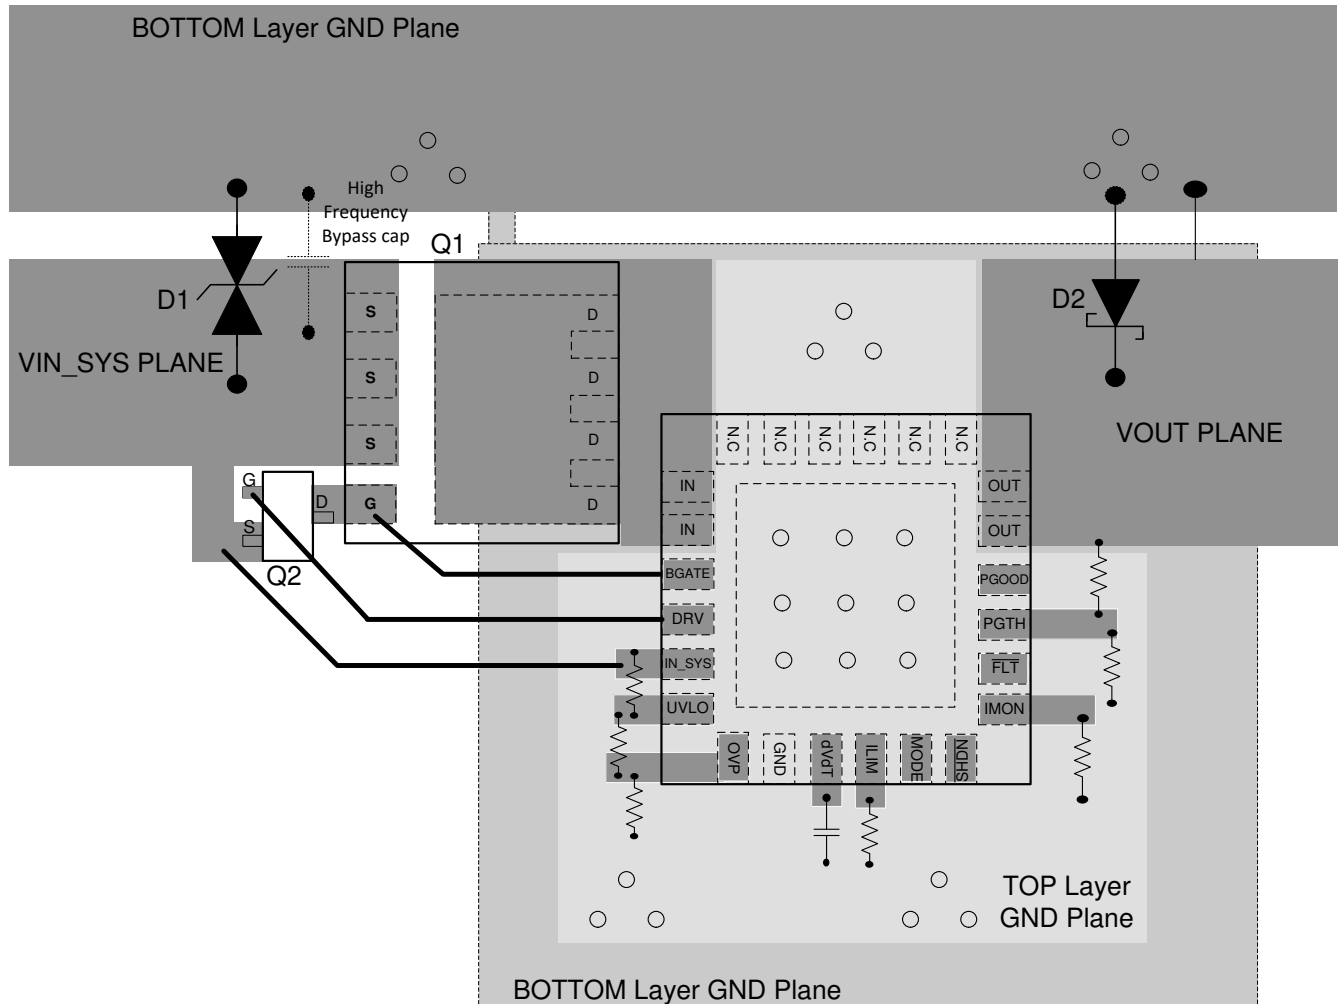
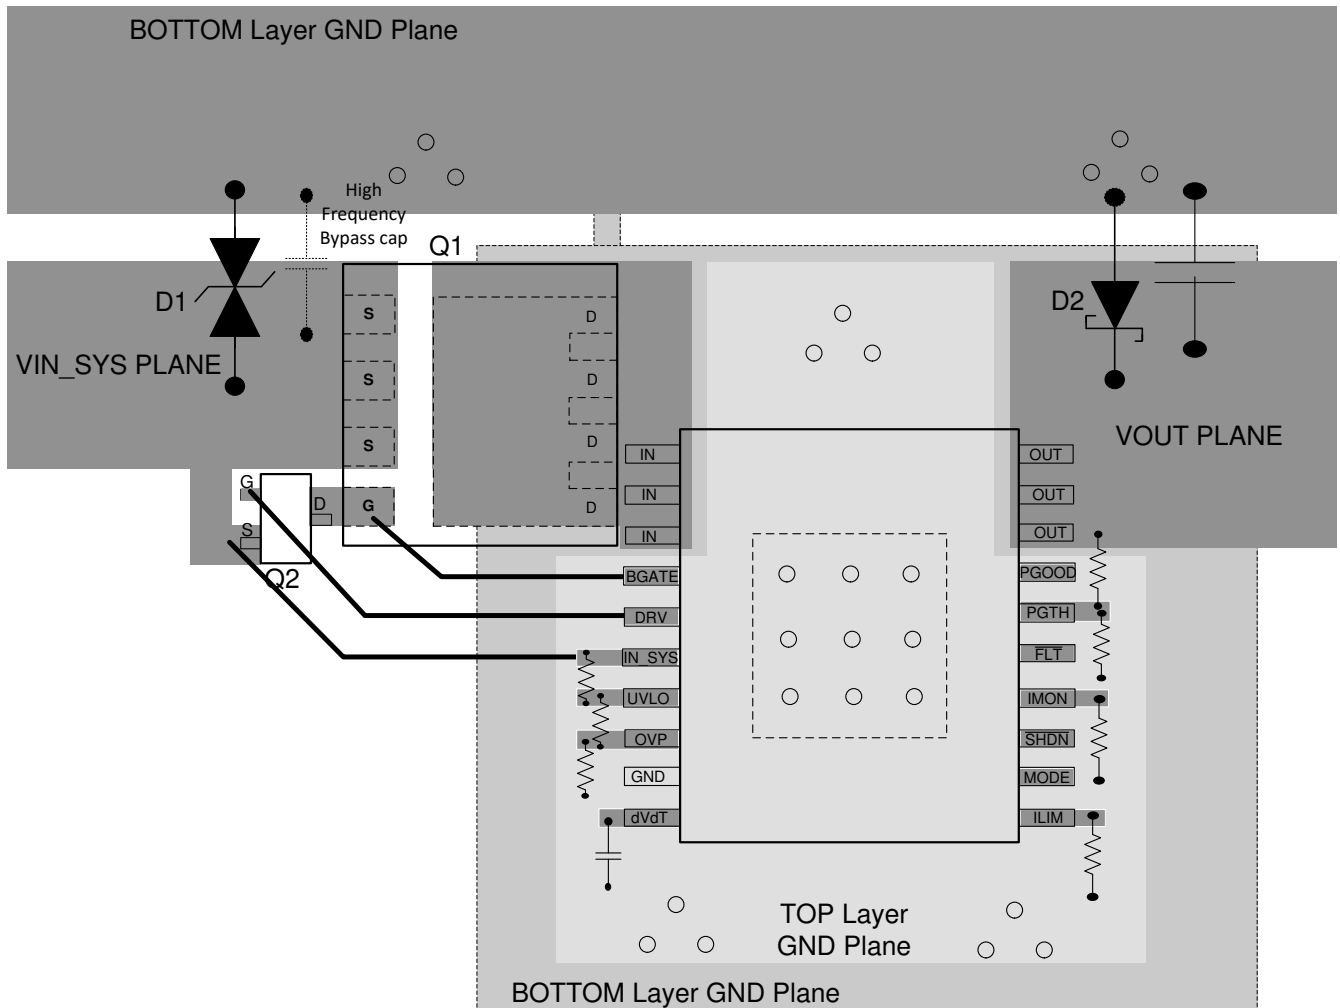

Figure 12-1. Typical PCB Layout Example With QFN Package With a 2 Layer PCB
Figure 12-2. Typical PCB Layout Example With HTSSOP Package With a 2 Layer PCB
- The external FET Q1 should be placed with DRAIN close to the V_{IN} pins of the IC and connected through a plane. The fast pull down switch Q2 DRAIN and SOURCE should be placed very close to the GATE and SOURCE terminals of Q1 with very short loop. See Figure 12-1 and Figure 12-2 for a typical PCB layout example.